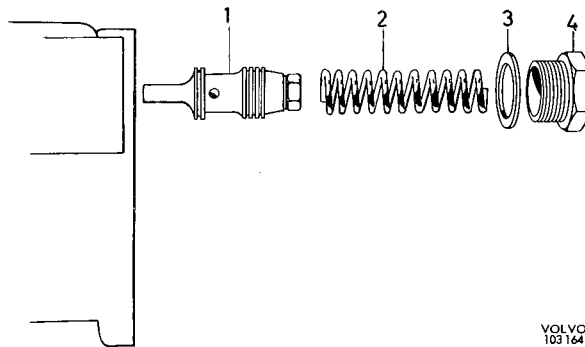

Fig. 6-61. Removing control valve
- b) Remove the pump control valve, see Fig. 6-61. Observe the utmost cleanliness. Wash and blow clean before screwing out the plug (4), which should be done from underneath. Check the valve piston and